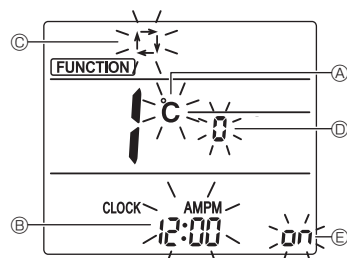

Fig. 7-12
3. Check that function No. "1" is displayed, and then press the **SET** button ③. The display setting screen will be displayed. (Fig. 7-12)